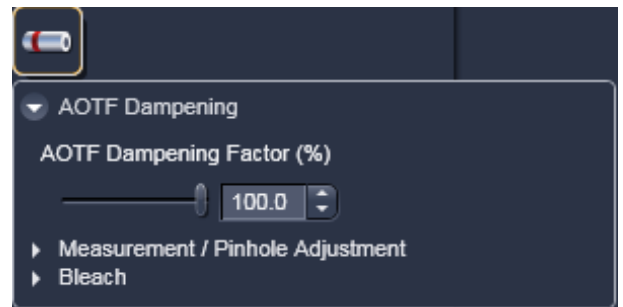

Fig. 29 AOTF Dampening panel
- Press the **AOTF Dampening** tab to display the AOTF Dampening control panel (Fig. 29). Press again to close the panel